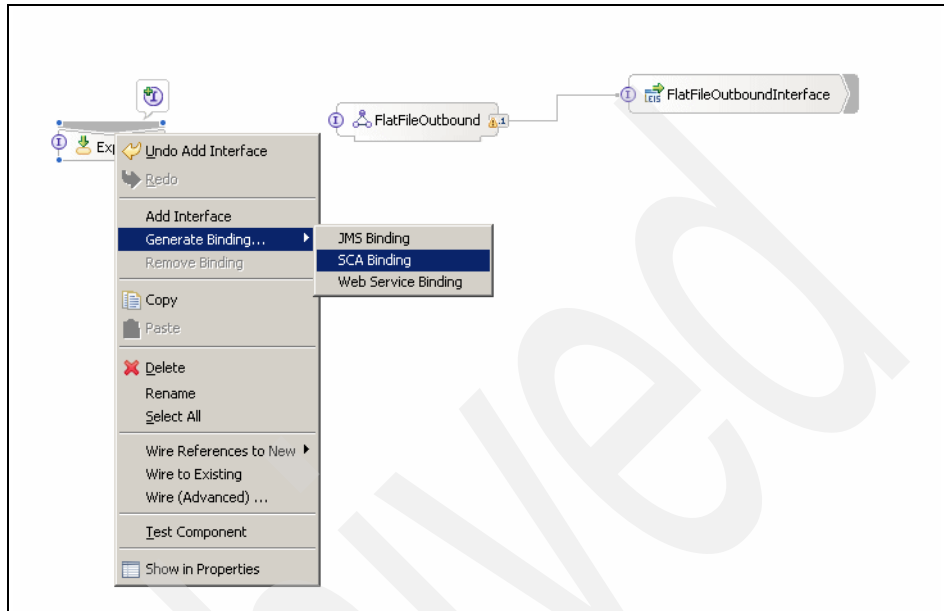

Figure 2-41 Add SCA binding
6. Wire ExternalContractorOutbound to the FlatFileOutbound interface map and generate an SCA binding for the ExternalContractorOutbound (Figure 2-41).